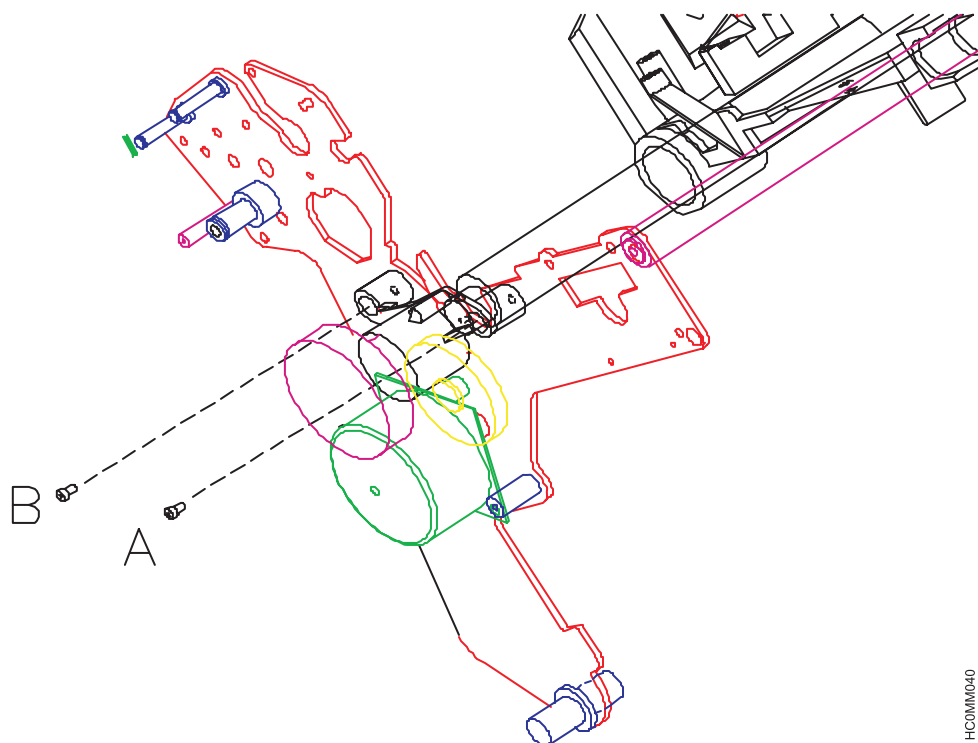

Figure 59. AGA (AFTA) Marker Adjustment
Mount the AGA (AFTA) Marker by slightly tightening the right side screw indicated in Figure 59 on page 209 (item A). Set the AGA wheel on sector 1 reference. Fix the ribbon mask, if previously removed.
If two teeth are touching during the gears engagement, put the (AFTA) Marker gear in the first free tooth and tighten both screws (item A and item B in Figure 59 on page 209).
- Loosen both AGA (AFTA) wheel screws. See A and B in Figure 59 on page 209.